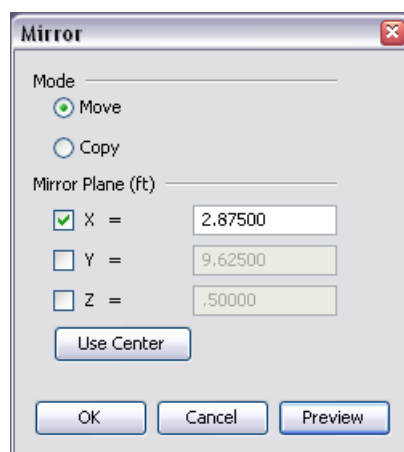

Figure 109. The mirror dialog
3. This will show the Mirror dialog as in Figure 109.